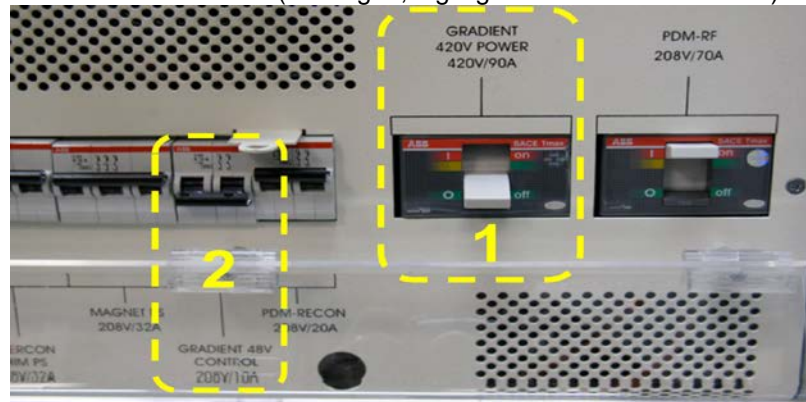

Figure 2. Turn the circuit breakers off in the following order:
- 3) Turn OFF Gradients Power Switch (see Fig. 2, highlighted switch #1 at the right).
- 4) Turn OFF Gradients Control Switch (see Fig. 2, highlighted switch #2 at the left).